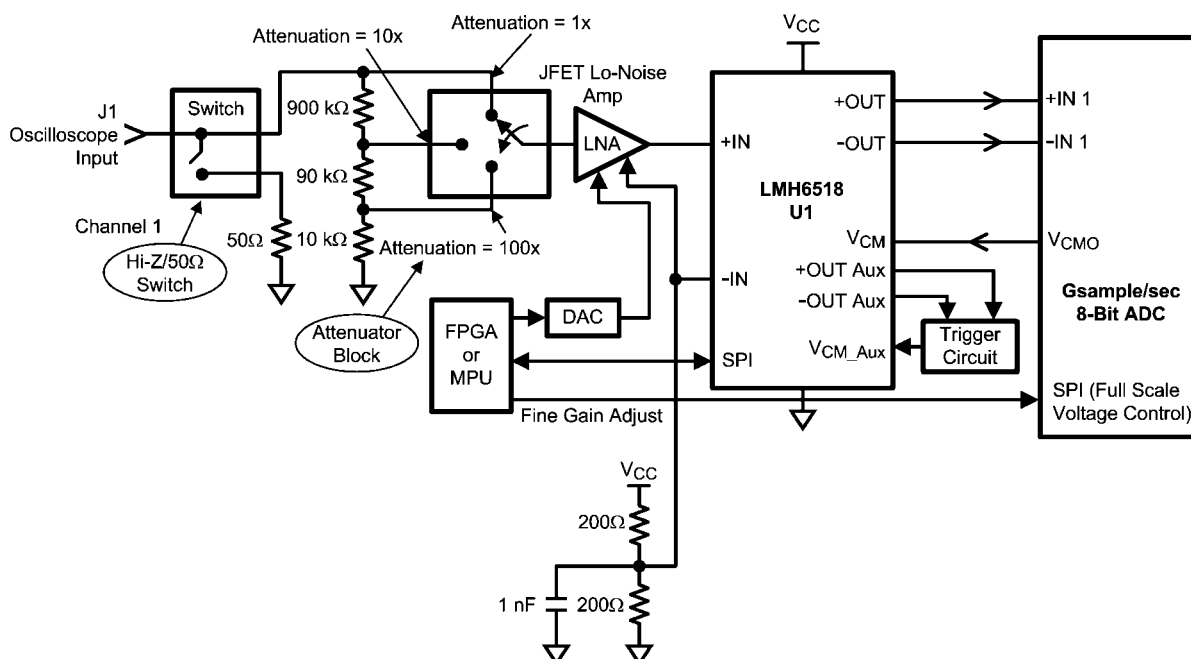

FIGURE 6. Digital Oscilloscope Front-End
- Scope front end noise (Front-end attenuator + scope probe Hi-Z buffer which is discussed later in this document and shown in *Figure 6*)
From *Figure 6*, the signal path consists of the input impedance switch, the attenuator switch, Low Noise Amplifier (LNA, JFET amplifier) to drive the LMH6518 input (+IN), and the DAC to provide offset adjust. The LNA must have the following characteristics:
- Low Noise ($<0.98 \text{ nV}/\sqrt{\text{Hz}}$) to reduce the impact on the LMH6518 Noise Figure. Note that *Figure 6* does not show the necessary capacitors across the resistors in the front-end attenuators (see *Figure 15*). These capacitors provide frequency response compensation and limit the noise contribution from the resistors so that they do not impact the signal path noise. For more information about front-end attenuator design, including frequency compensation, see the Reference section for additional resources.
Here is the schematic drawing for a possible implementation of the LNA buffer shown in *Figure 6*: